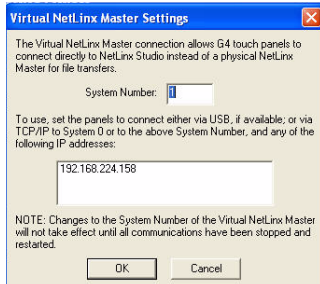

FIG. 39 Virtual NetLinx Master Settings dialog
- Click the **Edit Settings** button to open the *Virtual NetLinx Master Settings* dialog (FIG. 39).